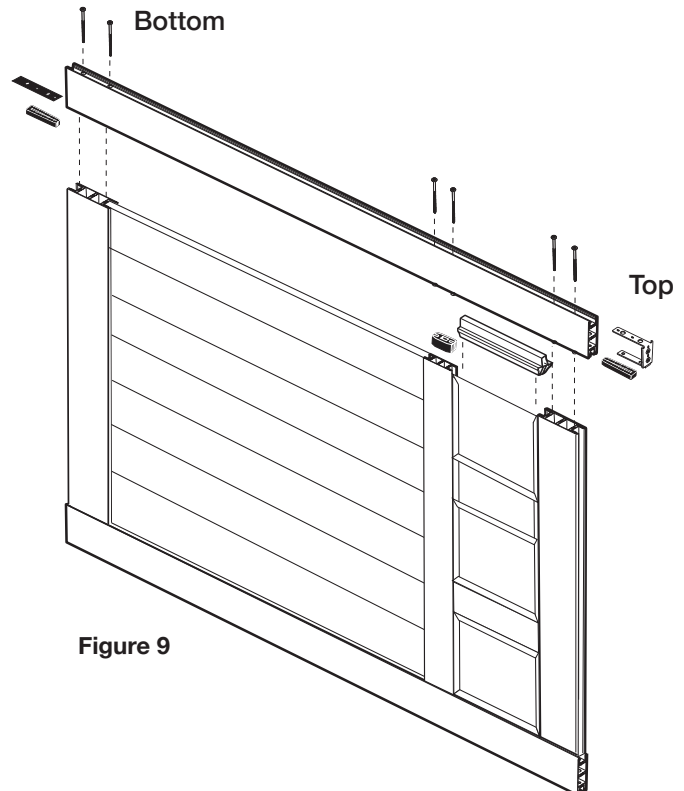

Figure 9
Place 2 of the 4" screws into the 2 holes in the outside of the Stile channel at the bottom of the window section. Make sure they are fully inserted. Slide a small reinforcement clip (F) into the channel and over the screw shafts. See Figure 9.
Line up the 4 screws inserted through the Stile with the extrusion holes in the top rail and the bottom transom rail and tighten all 4 screws until flush and secure. Go back and tighten the screws in the bottom door rail. See Figure 9.